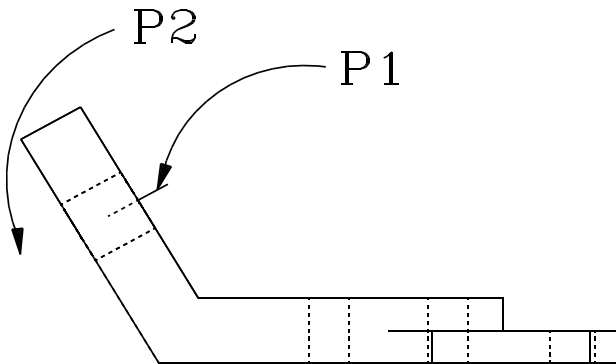

Figure 24
- 97. Click on points P1 and P2 as indicated in Figure 24, to extend the line through the object.